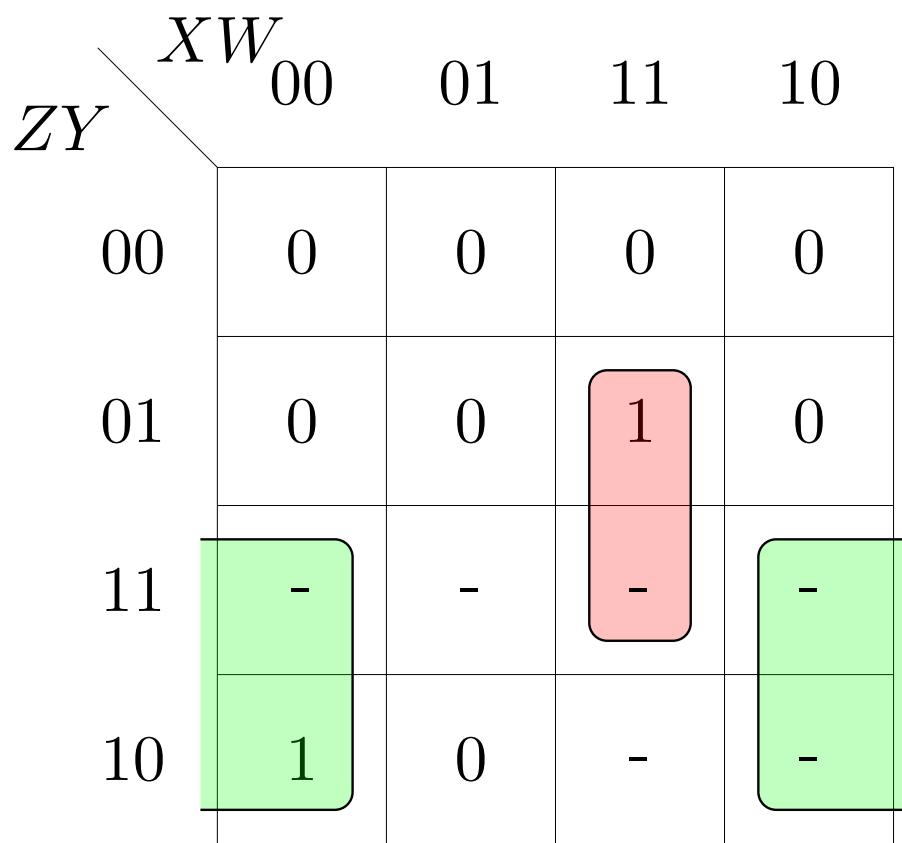

Figure 4.8: K-map for D with don't cares
5. The revised K-map for D is available in Fig 4.8 Show that